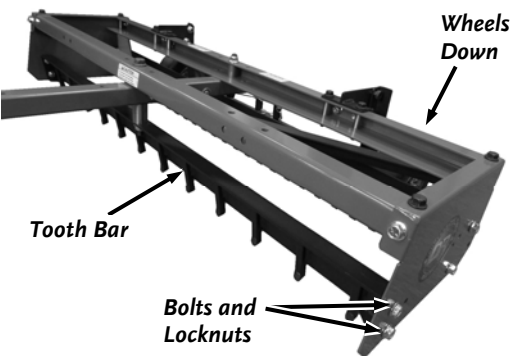

Figure 43
2. Remove the Bolts and Locknuts on both ends of the Tooth Bar using two 9/16" Wrenches (**Figure 43**).